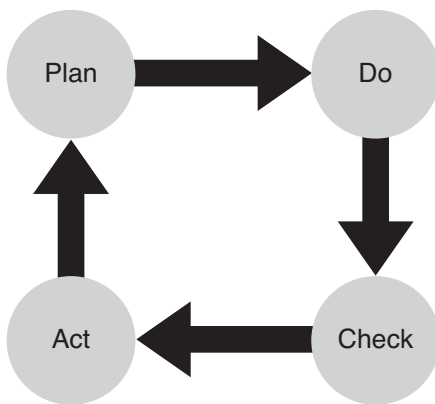

FIGURE 7.1 The plan-do-check-act cycle is paramount to sound project management.
- ▶ **Managing projects equates to managing iterative processes**—Processes within project management are, for the most part, iterative and follow the cycle: plan the work, do the work, check the work, and act on new information and redirect the work (see Figure 7.1).